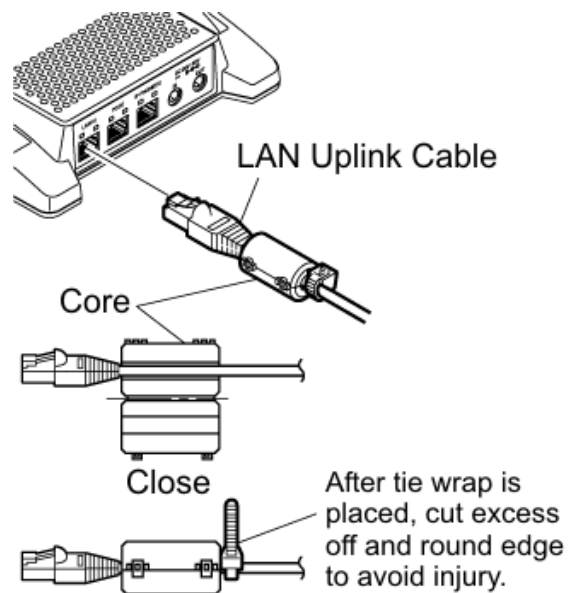

Figure 6-59 LAN(=) Connection
16. Connect the Core then plug in the Network connection cable (refer to Figure 6-59 LAN\(=\) Connection).